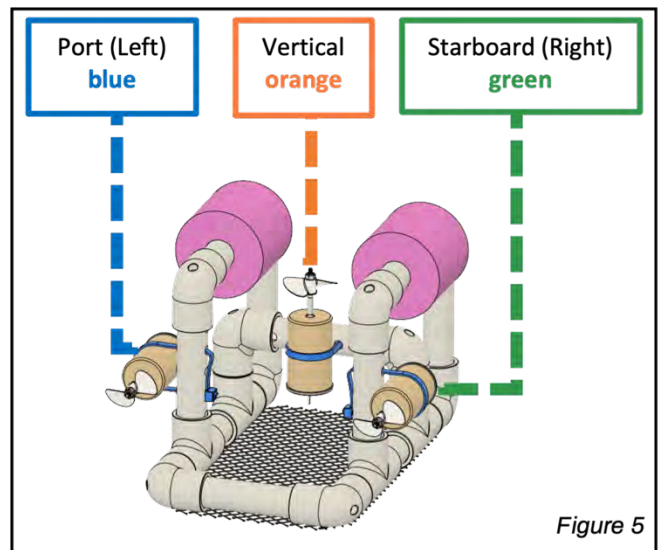
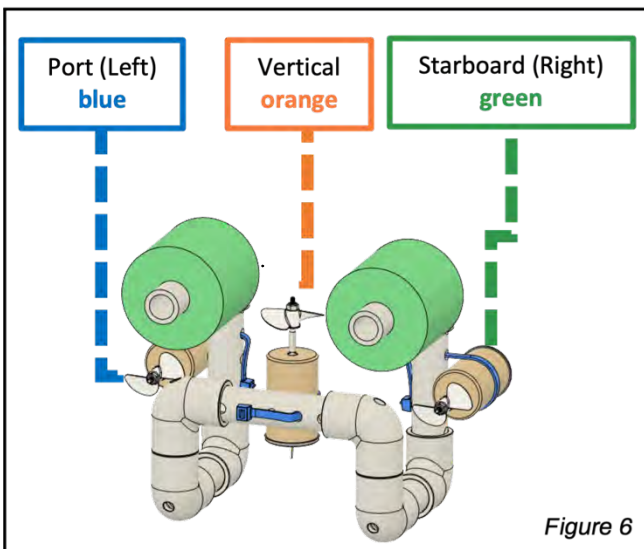
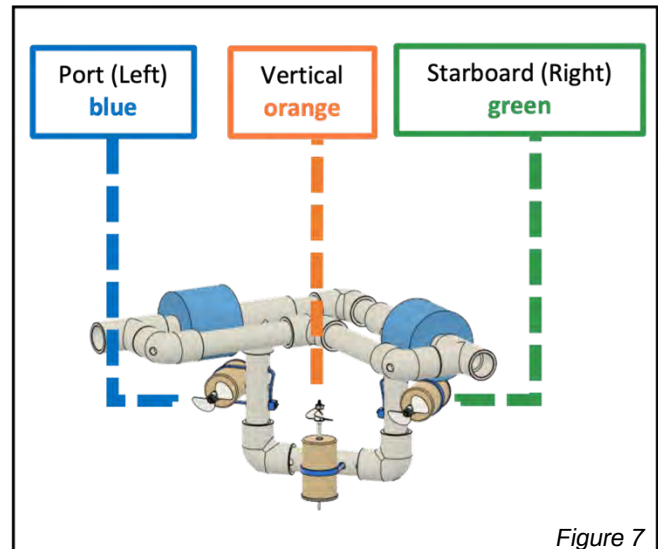

Figure 5
Figure 6
Figure 7
- Review Table 1 and Figure 5 (Utility ROV), Figure 6 (Mini ROV), and Figure 7 (V-Wing ROV) for thruster placement for your chosen design.